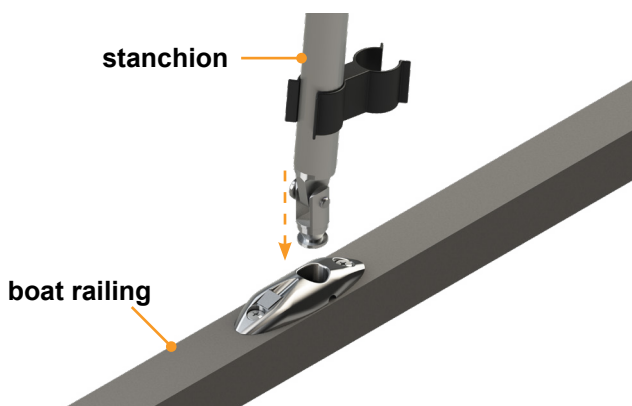

Fig.16
G. Reinsert the stanchions into their locking plates (Fig.16).